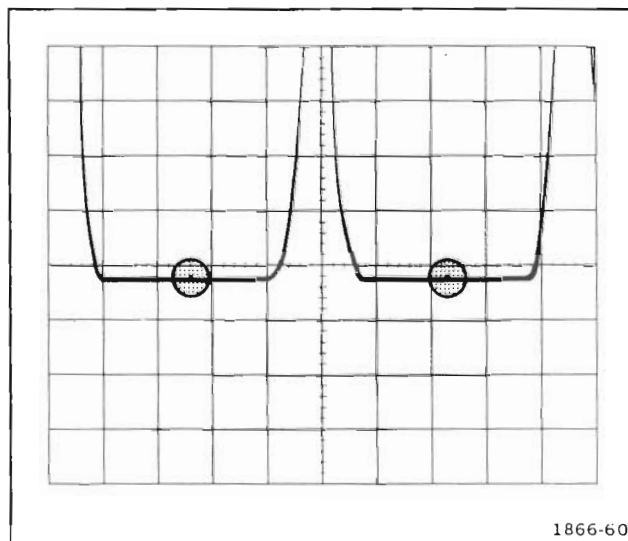

Figure 5-2. Typical display when horizontal limit centering is properly adjusted. Circles indicate the baseline areas for dc level match.
- g. **CHECK**—The base lines of the displayed triangular waveforms for dc level match within 0.2 division. See Figure 5-2.